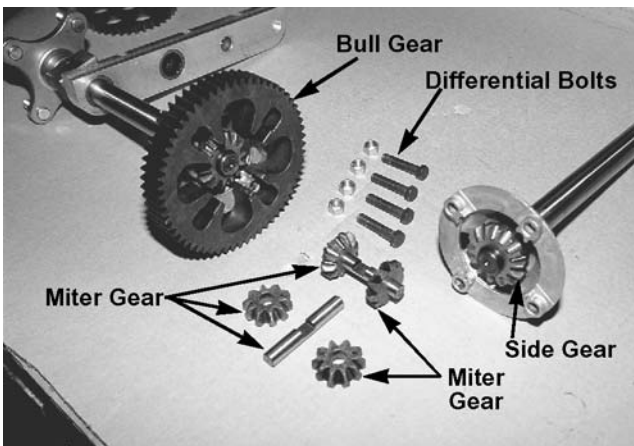

Figure 5-82.
35. Remove the bull gear and inspect the teeth and lug areas for any damage. See Figure 5-82.